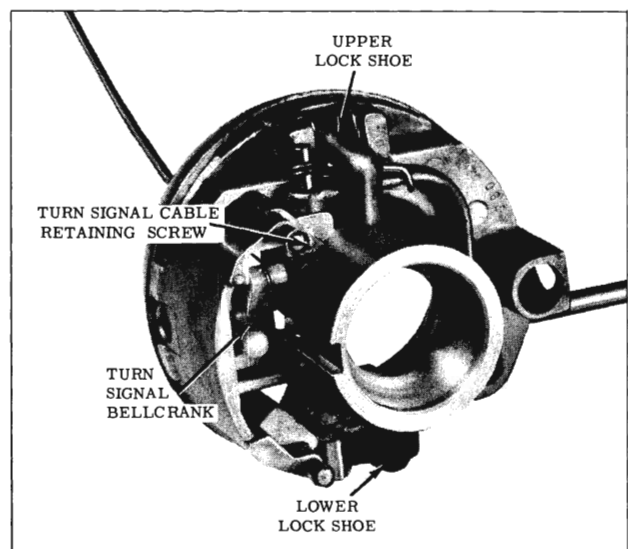

Fig. 4-92 Actuator Housing (Top View)
- Remove the lock shoes and springs by pushing the upper end of the lock shoe through the openings in the actuator housing. (Fig. 4-92)